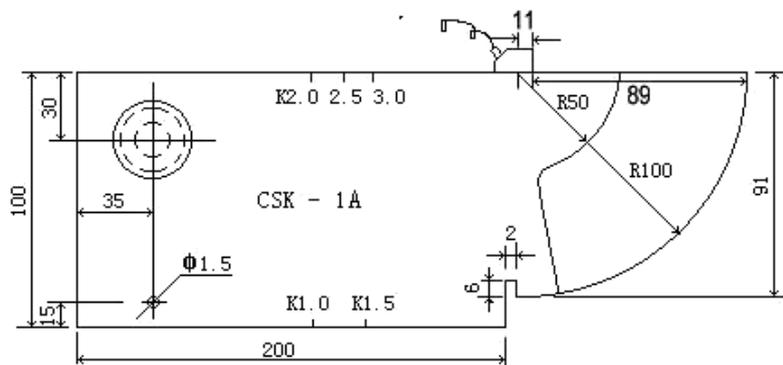
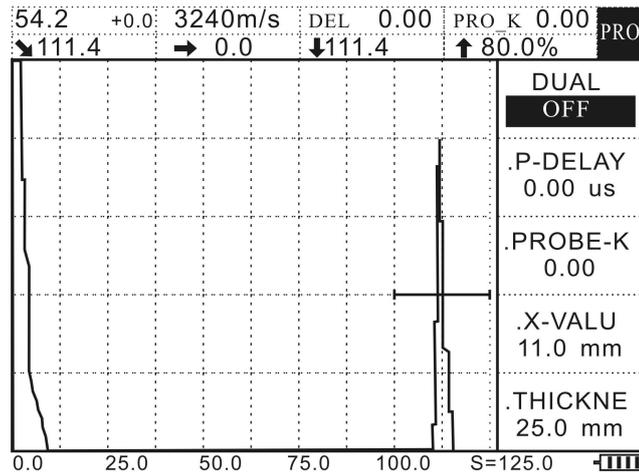

Figure 4-4
Figure 4-5
3. Calibrate the front edge of the probe: put the probe on the test block and move it till the reflector echo of the hollows of R100mm reach the highest level, measure 89mm of the front face of the probe with a ruler, at this point, the front edge value of the probe is: $100-89=11$ mm. As shown in Figure 4-4, after that, press **PROBE** to enter the probe menu, then press  (up) or  (down) to select the probe front edge submenu, press  (left) or  (right) to set the probe front edge value as 11mm, as shown in Figure 4-5.